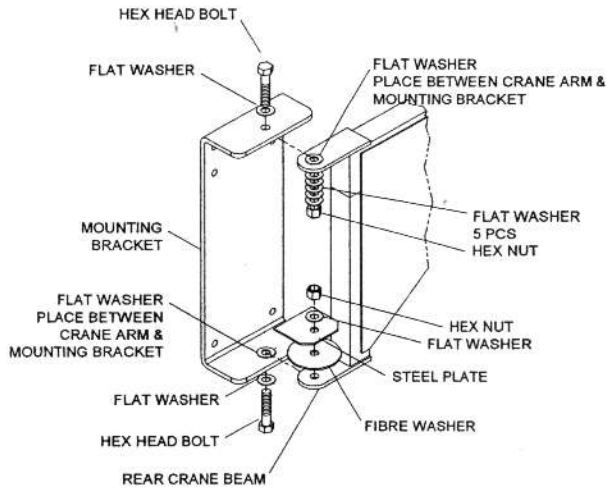

Figure 8
2. After selection of the support structure, a decision on how the main support bracket of the crane arm should be installed. The mounting bracket must be installed perfectly vertical to prevent drifting of the crane arm. Depending upon installation equipment, it may be determined that the bracket should be removed from the crane arm and installed to ensure the vertical accuracy of the bracket. Bracket can then be attached back onto the crane arm. All hardware must be reinstalled exactly as original. {See figure 8}. Tighten hardware sufficiently enough so crane arm swings firmly yet freely.